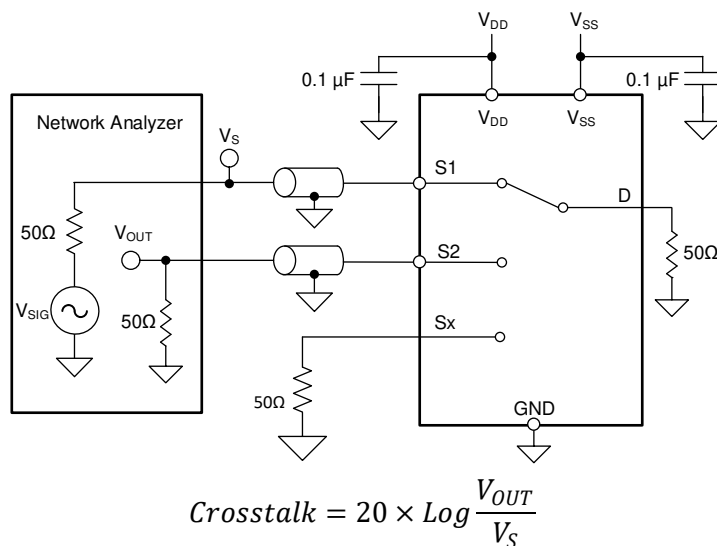

图 7-11. Crosstalk Measurement Setup
Crosstalk is defined as the ratio of the signal at the drain pin (D) of a different channel, when a signal is applied at the source pin (Sx) of an on-channel. 图 7-11 shows the setup used to measure and the equation used to calculate crosstalk.